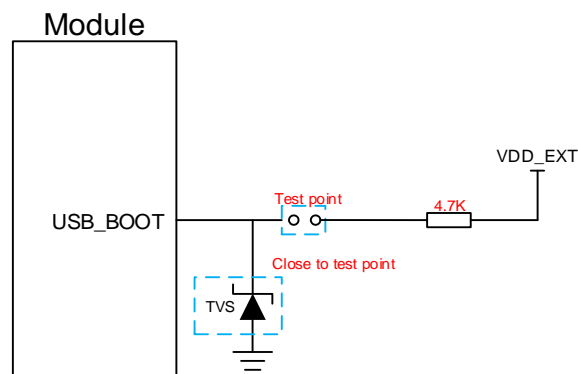

Figure 31: Reference Circuit of USB_BOOT Interface
2. When using MCU to control module to enter the emergency download mode, please follow the above timing sequence. It is not recommended to pull up USB_BOOT to 1.8V before powering up VBAT. Short the test points as shown in **Figure 31** can manually force the module to enter download mode.